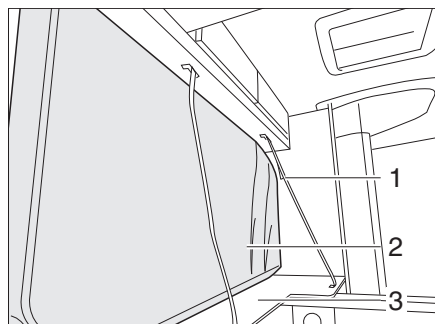

Fig. 48 Dismantling Variant 1
- Lift the slatted frame out of the latch and place it on the cover (Fig. 48,3).
- Place the cushions, mattresses and slatted frames (Fig. 48,2) next to each other.
- Secure everything using the belt (Fig. 48,1).